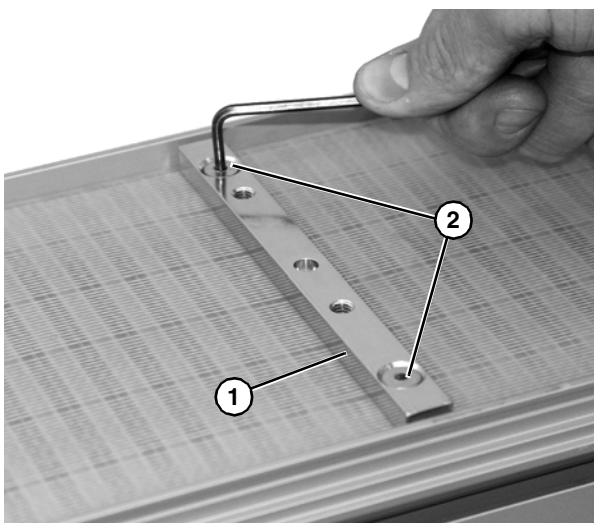

Figure 13
3. Install belt fixture (Figure 13, item 1).
4. Attach with M5 flat head screws (Figure 13, item 2). Tighten to 35 in-lb (4 Nm).